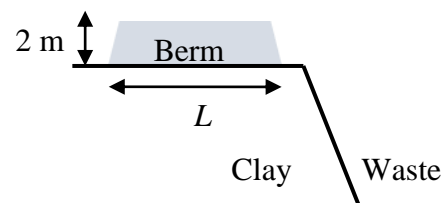

Fig. 2
- (iii) A flat bed anchor is to be designed at the top of the landfill to restrain the geomembrane as shown in Fig. 2. The clay in the berm has a unit weight of  $17 \text{ kN m}^{-3}$  and the height of the berm is 2 m. Design a suitable anchor length  $L$  for the berm. State clearly any assumptions you have made. [20%]